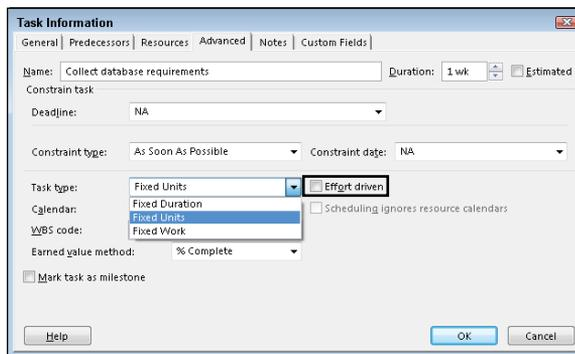

Figure 5-1:
2. Click the Advanced tab, as shown in Figure 5-1.
Adding resources doesn’t cause a task to be completed sooner — in fact, the behavior changes from fixed work to fixed duration. Select the Effort Driven check box on the Advanced tab in the Task Information dialog box to enable or disable the Effort Driven setting; it isn’t selected by default (refer to Figure 5-1). When you clear this check box, the same task that you set to run two days takes two days, no matter how much effort your resources contribute.